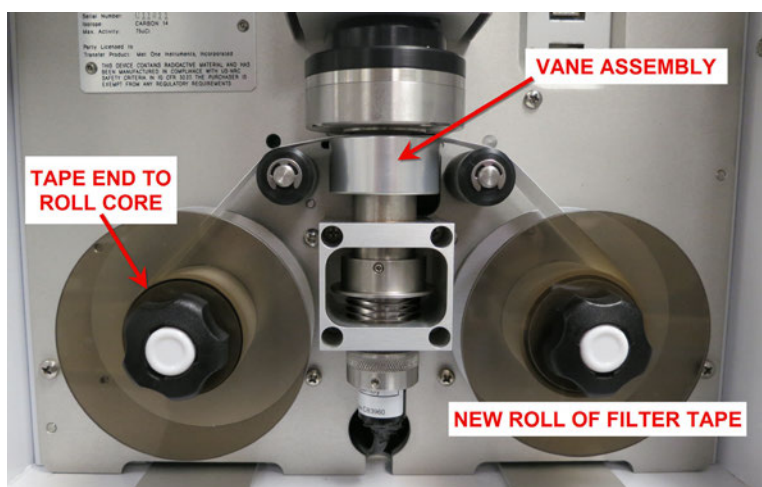

Figure 2-18 Proper Loading of the Filter Tape
4. Load the new roll of filter tape onto the right (supply) reel, and route the tape through the nozzle area as shown in Figure 2-18. Attach the loose end of the filter tape to the empty core tube with tape.